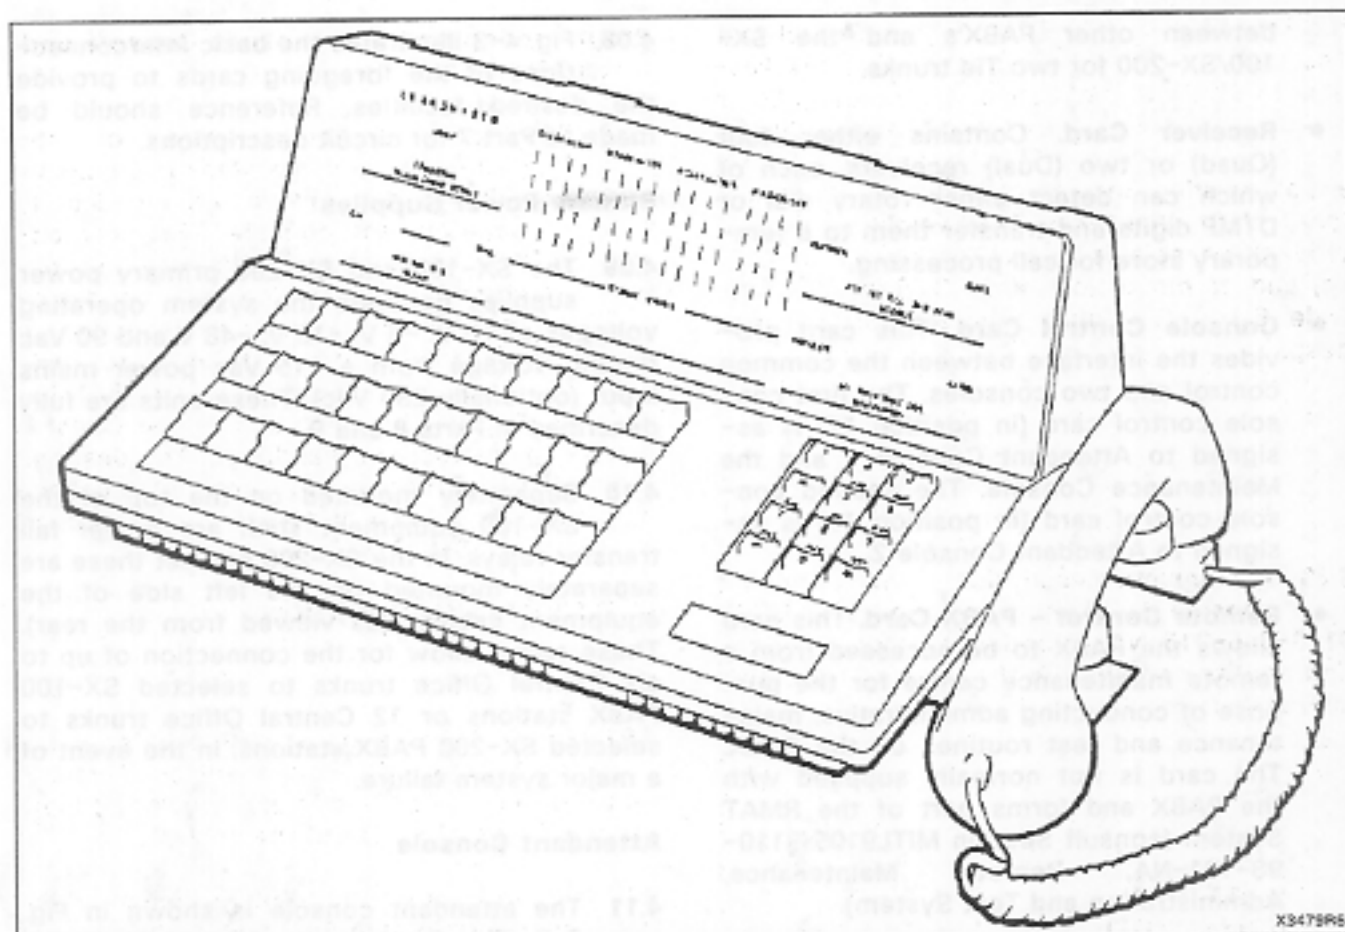

Fig. 3-8 Attendant Console
3.22 The attendant console (see Fig. 3-8) is enclosed in a housing with a smoked plastic faceplate. Located on either side of the console are a pair of headset/handset jacks allowing simultaneous operation and supervision. The console keyboard holds three rows of ten nonlocking keys for the selection of features and completion of calls. On the right of
4.11 The attendant console is shown in Fig. 3-8. The three rows of buttons on the console faceplate are used to select and handle calls. Each button has a light-emitting diode (LED) associated with it to indicate the status of the call appearing on that button.